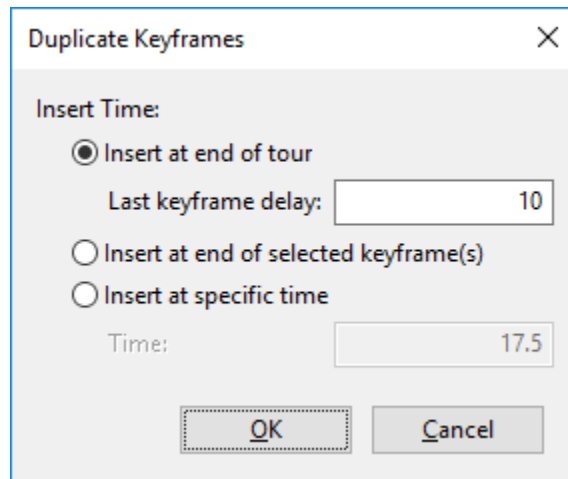

Figure 38. Duplicate Keyframes dialog
2. Right-click the keyframes and select **Duplicate**. This will open the **Duplicate Keyframes** dialog as shown in Figure 38.